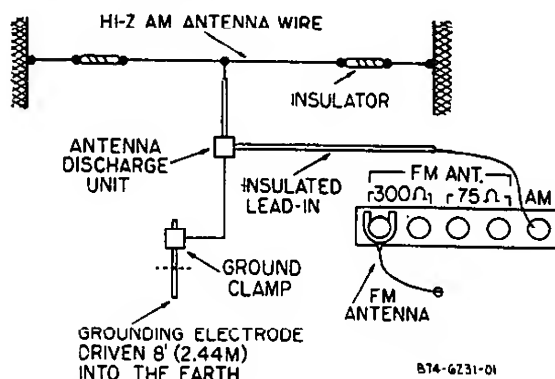

Figure 1 - Connecting Outdoor AM and FM Line Antenna.
Articles 810 and 820 of the National Electric Code, ANSI/NFPA No. 70-1978 provides information regarding antenna grounding. The CPT-1B is designed for connection to various antenna systems as illustrated in Figures 1 through 3.
**FM LINE ANTENNA.** The CPT-1B line cord may be used as an internal FM Line Antenna for receiving FM broadcasts (See Figure 1). For improved reception, particularly in weak signal areas or for tuners mounted in consoles or racks, installation of an outdoor FM or "T" antenna is necessary.